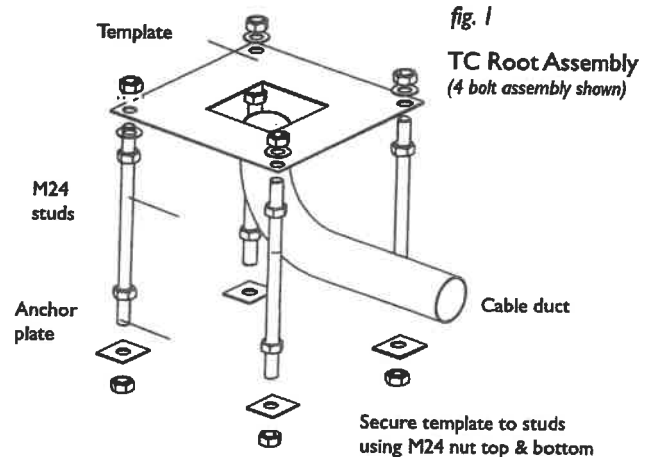

fig. 1
3. Assemble root base as shown in fig. 1